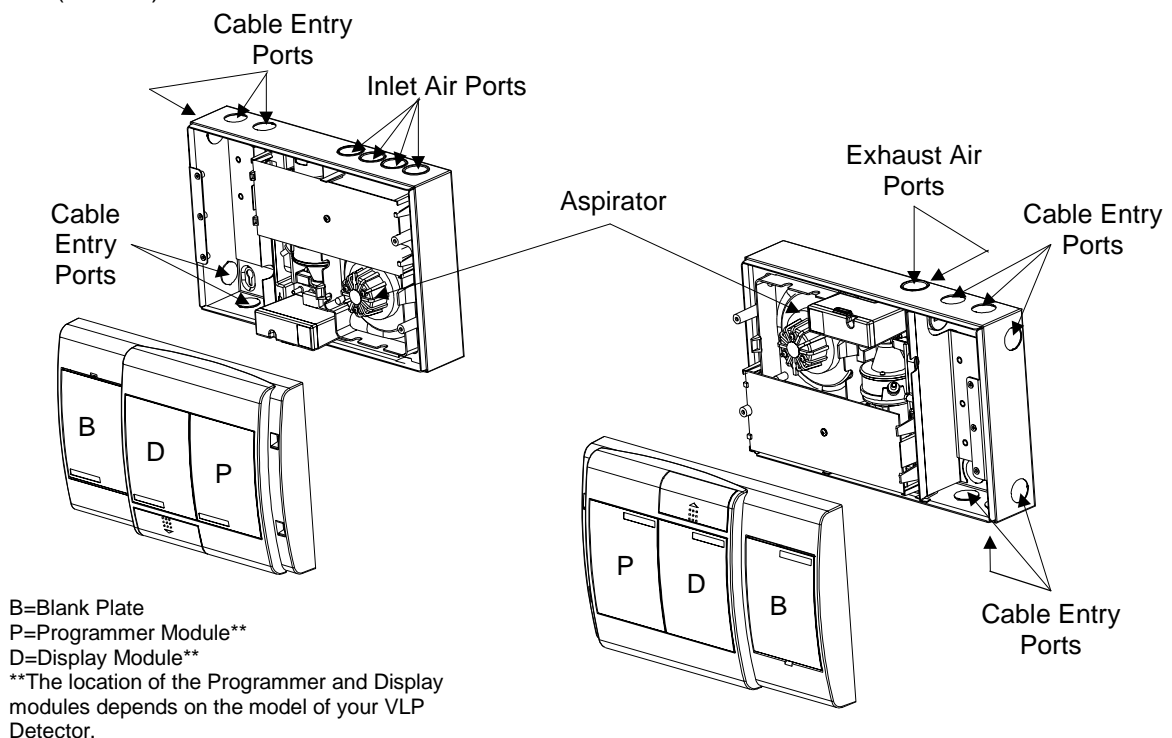

Figure 3 LaserPLUS Orientation, Normal (left), Inverted (right)
- Identify the location where the detector is to be mounted. The LaserPLUS can be mounted on a wall or a suitable secure surface. There are two allowable mounting positions for the LaserPLUS as shown in Figure 3.
The detector is shipped from the factory with the display, programmer and/or blank plates positioned in the normal orientation. Refer to Figure 3. If the detector is to be mounted in the inverted orientation, perform the following steps to rotate the modules.
- (e) Rotate modules 180° and gently re-insert into the same compartment until modules are flush with the front cover. Refer to Figure 3 for orientation. Ensure the metal fingers are located on the exterior of the Display/Programmer.
- (a) Determine the required orientation for the LaserPLUS. Refer to Figure 3 for orientation.